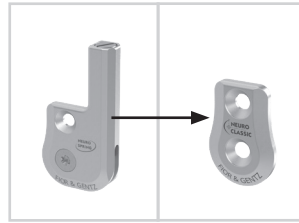

fig. 25
- 2 Mount the cover plate of the NEURO CLASSIC system joint in the correct system width (fig. 25).